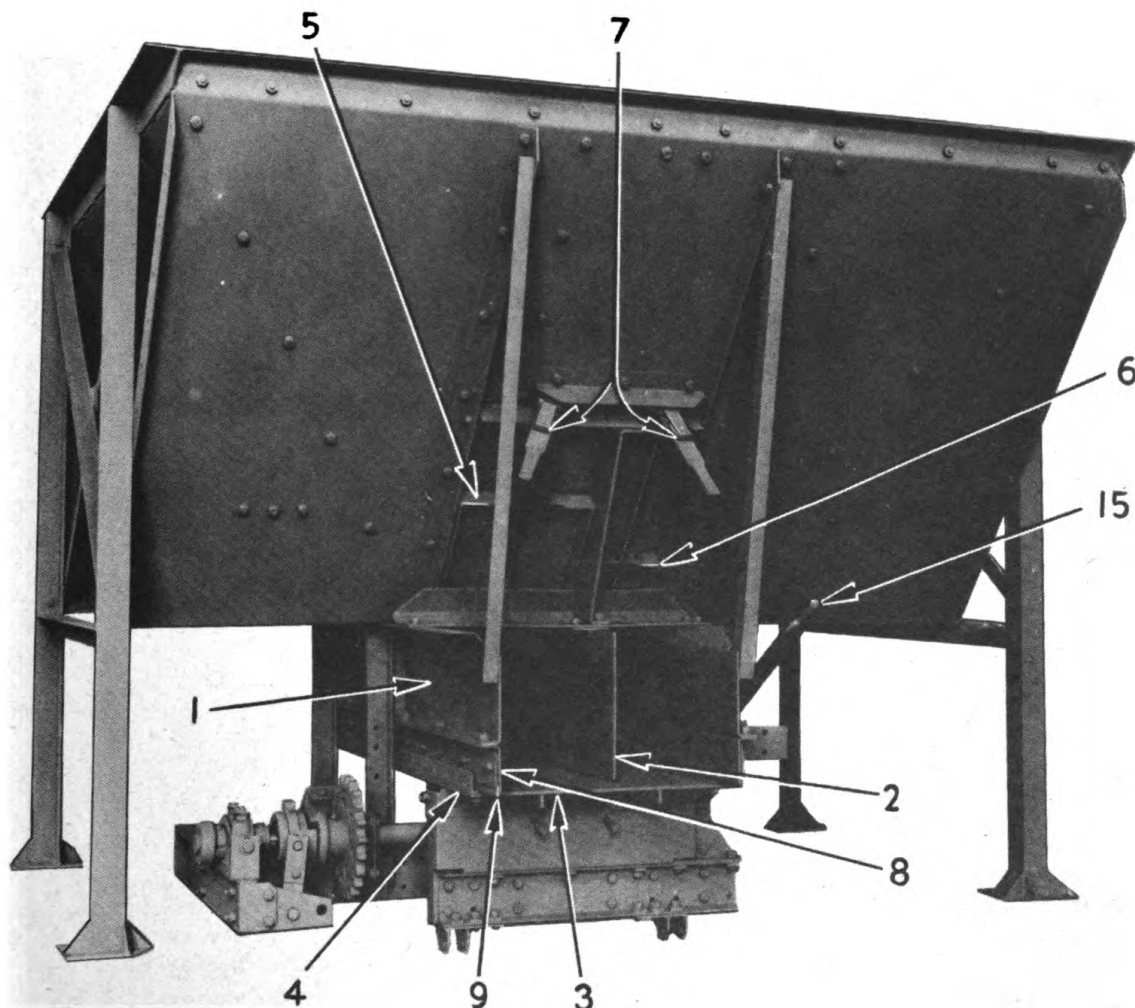
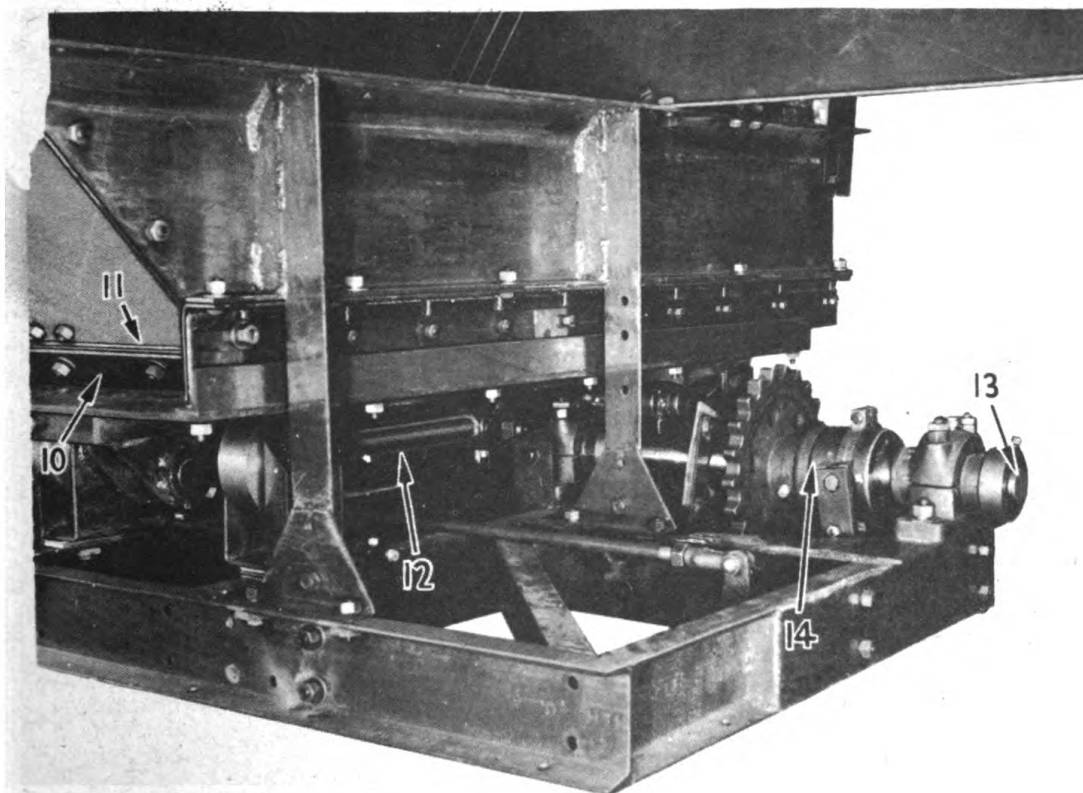

FIG. 6 - FRONT (DISCHARGE) END OF RECIPROCATING FEEDER AND HOPPER BASE.
FIG. 7 - DRIVING SIDE OF RECIPROCATING FEEDER.
In order for the dryer to produce aggregate at uniform temperatures and dryness, the aggregate must not only be fed in a steady, uniform flow, but if two sizes of aggregate are being dried at the same time, the amounts of each must be proportioned. These functions are performed by the reciprocating feeder (Fig. 6).
The hopper section (1), Fig. 6 of the feeder proper has an insufficient surge capacity in itself to provide a uniform flow of aggregate under the gate for any length of time. Its primary function is to serve as a base for a large hopper extension or as a support for a bulkhead housing. In addition to these functions, it serves as a feeding chamber with more than ample capacity to provide sufficient aggregate for every stroke of the sliding plate, provided that a sufficient head of aggregate is maintained above the hopper section to replenish each void caused by a stroke of the sliding plate. The hopper section must be kept filled at all times to insure uniform feed of aggregate.
Some types of mixes require that two sizes or types of aggregate be blended together so that the mix will conform to specifications. The hopper section of the reciprocating feeder is supplied with a divider plate (2) Fig. 6 for this purpose.
The sliding plate (3) Fig. 6, located directly beneath the hopper section, supplies the means by which the aggregate is fed from the hopper to the point of discharge. The plate is made of high carbon wear resisting steel. It is supported by four rollers, one at each corner of the plate. Angles (4), bolted to each side of the plate, assist in preventing leakage of aggregate along the sides of the hopper. These angles are bolted in place and can be easily replaced when worn.
Two adjustable gates, one 15" (5) Fig. 6 and one 9" (6), located at the discharge end of the feeder, control the amount of aggregate fed from each side of the feeder. These gates are raised and lowered by means of long screws operated by ratchet levers (7). The size of gate opening is determined by measuring the distance, in inches, from the sliding plate to the bottom of each gate. If the feeder is used to feed a single aggregate, both gates are set at the same opening. If two sizes of aggregate are fed thru the feeder, each gate is set at the opening that will give a proper feed for that size aggregate. (See Reciprocating Feeder Capacities, Table 1.)
Leakage of aggregate around the sides and the charging end of the feeder plate is prevented by seals around the base of the hopper section. The seals along each side consist of a wear resisting skirt angle (8) Fig. 6, and rubber belt flashing (9). The vertical leg of the angle is an extension of the hopper side and extends downward to within 1/8" of the sliding plate angle. The rubber belt flashing fits against the outside of the angle and extends downward, -- flush against the sliding plate angle. The flashing is held in position against the angle by a steel bar, running the full length of the flashing and is secured by bolts. The rubber flashing keeps all aggregate confined within the hopper section.
The seal at the rear of the sliding plate consists of a wear resisting steel plate (10) Fig. 7, and rubber belt flashing (11). Both the plate and flashing have slotted holes to allow for downward adjustment to compensate for wear. The flashing should be kept flush against the sliding plate, and the wearing plate should be kept $\frac{1}{8}$ " above the sliding plate.
The reciprocating action of the sliding plate is produced by a crank arm (12) Fig. 7, driven by the feeder crankshaft (13). The crankshaft is chain driven from the footshaft of the "cold elevator". The crankshaft is engaged by means of a jaw clutch (14), operated by a lever (15) Fig. 6, located opposite the drive side of the feeder. The clutch can be engaged or disengaged while the dryer is running. The clutch should be left disengaged when the dryer is started and should not be engaged until the dryer burners are lighted and adjusted for proper flame. When the dryer is to be shut down, the feeder clutch is disengaged before the flame is extinguished in the drums. This is very necessary in order to permit all aggregate to run out of the drums before the dryer is stopped.